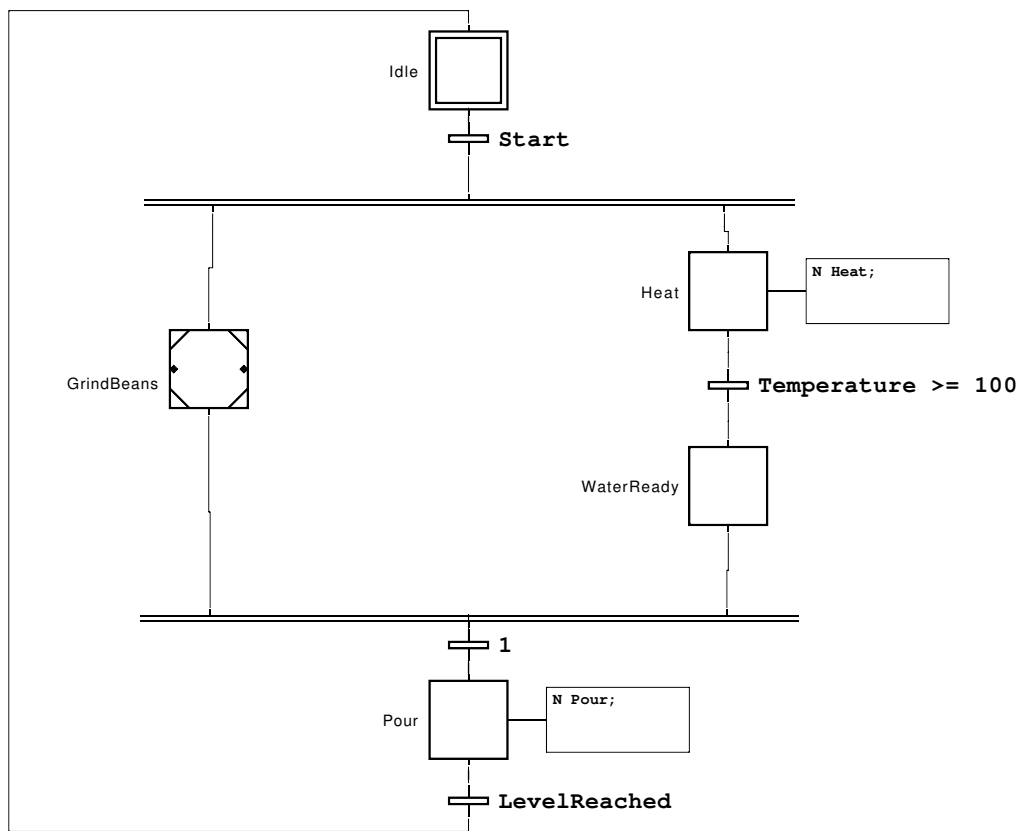

Figure 4 A possible solution for the complete coffee-making task.
- b.** A possible solution is shown in Figure 4.